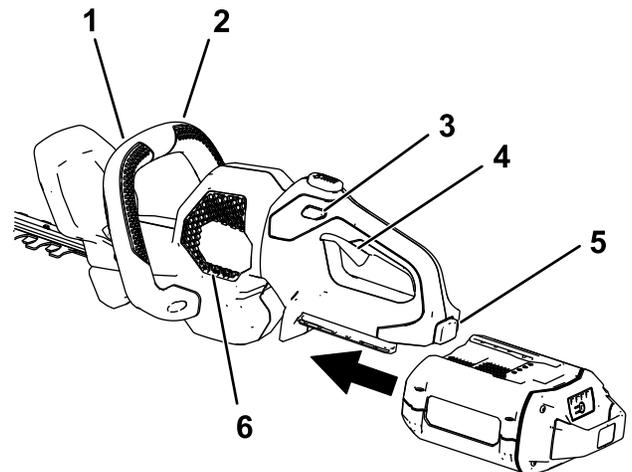

Figure 7
3. Align the cavity of the battery pack with the tongue in the handle housing, grasp the handle, and push the battery pack into the handle until the latch locks into place (Figure 7).
4. Place 1 hand on the trigger handle. Place the other hand on the auxiliary handle (Figure 7).
5. Press the lock switch and then squeeze the trigger switch while engaging the auxiliary-handle switch to turn on the hedge trimmer (Figure 7).
The trimmer stays on as long as the auxiliary-handle switch is engaged and the trigger is squeezed. You may release the lock switch once the hedge trimmer is running (Figure 7).
To shut off the hedge trimmer, release the trigger, auxiliary-handle switch, or both (Figure 7). Allow at least 5 seconds for the cutting blade to stop moving.